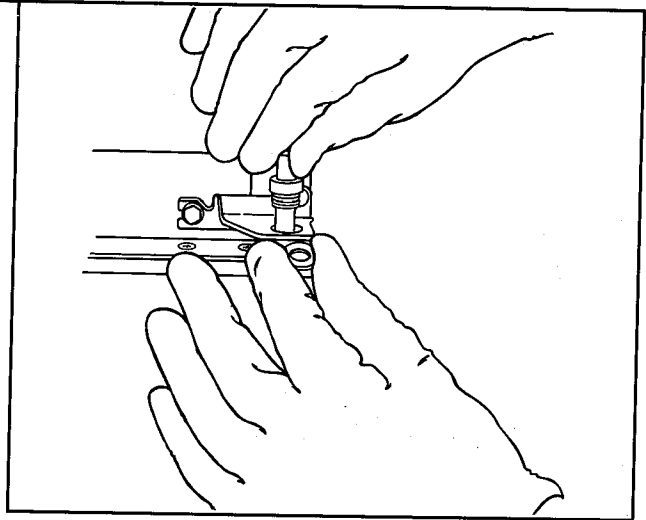

Figure 73
b. Holding door shut, reinstall center hinge pin so pin fits through bracket and into door socket. See Figure 73.